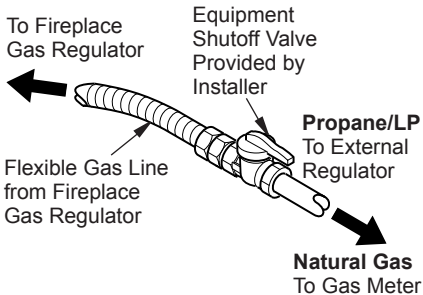

Figure 20 - Attaching Flexible Gas Lines
NOTICE: Most building codes do not permit concealed gas connections. A flexible gas line is provided to allow accessibility from the fireplace (see Figure 20). The flexible gas supply line connection to the equipment shutoff valve should be accessible.
4. Attach the flexible gas line to gas supply (see Figure 20). Check tightness of flexible gas line attached to gas regulator of fireplace (see Figure 20).